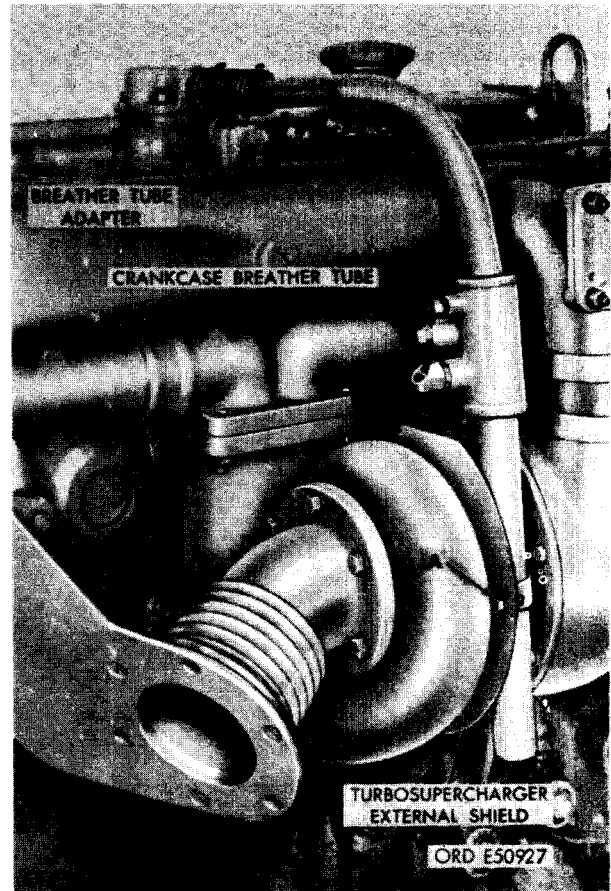

FIGURE 45. REMOVING OR INSTALLING CRANKCASE BREATHER TUBE (EARLY MODEL ENGINES).
- (2) Figure 45. (A) Remove 5/16-inch plain nut, 5/16-inch lock washer, 5/16 x 5/8 cap screw, and 5/16-inch flat washer securing crankcase breather tube and clip to turbosupercharger heat shield.